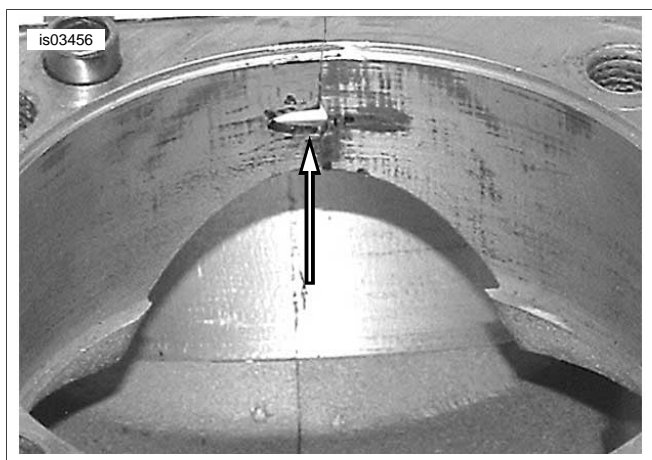
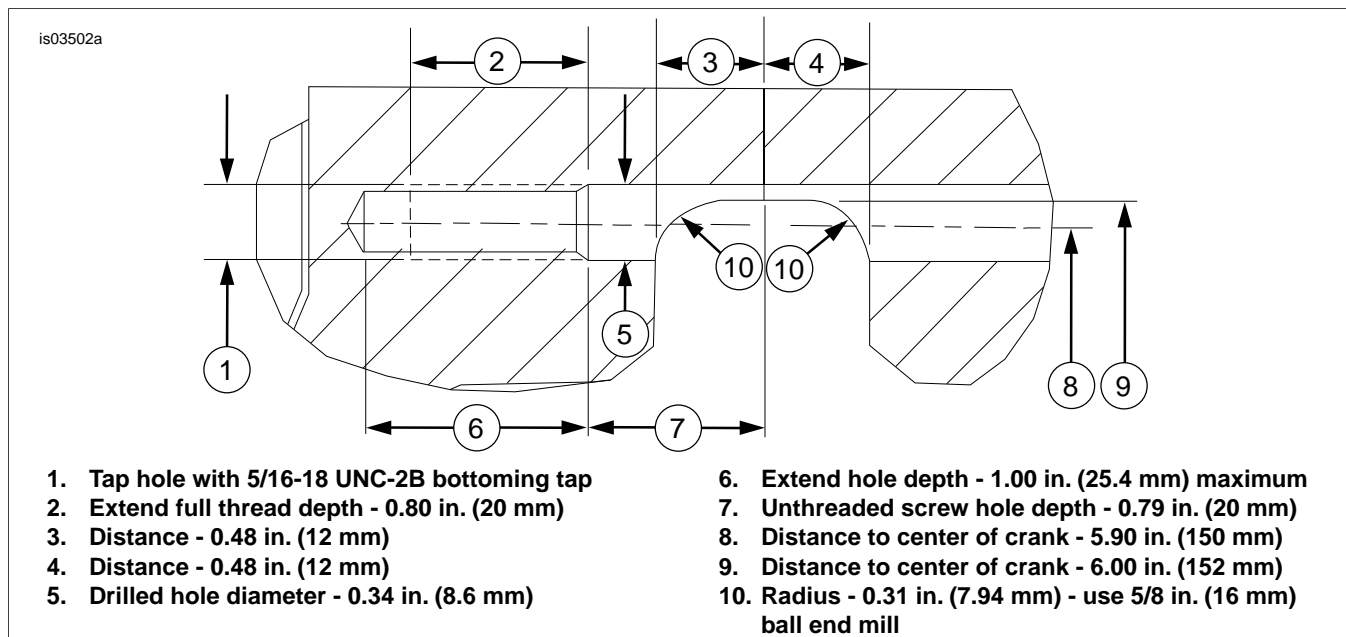

Figure 2. Cylinder Wall
Figure 3. Top Center Engine Crankcase Screw Hole Modification
2. See Figure 2. Using a 11/32 in. (8.7 mm) drill bit, drill out the existing threads of the top center screw hole. Drill to a depth of 0.79 in. (20 mm) from the gasket surface.
5. See Figure 2 and Figure 3. Remove the thin material between the cylinders next to the top center screw as shown, by using a 5/8 in. (16 mm) ball end mill and milling a 5/16 in. (7.94 mm) radius at the two points shown.